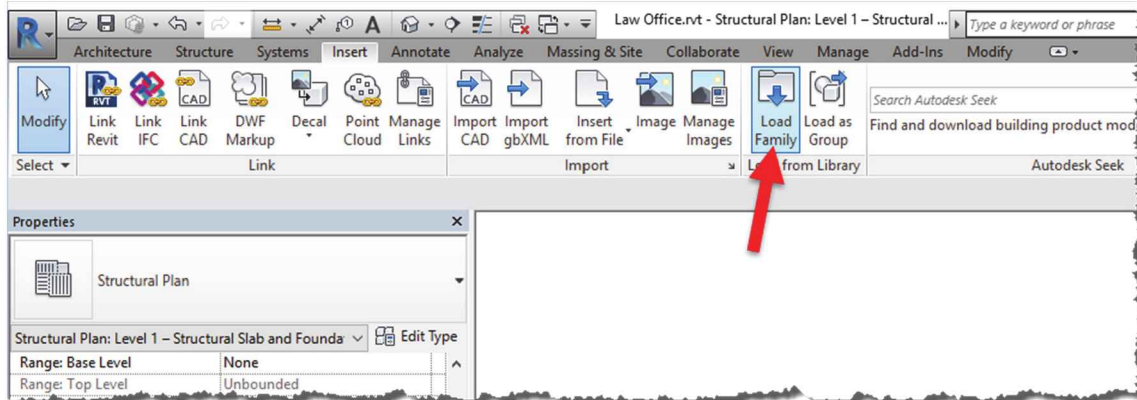

FIGURE 8-2.12 Loading content
31. Click **Insert** → **Load Family** from the *Ribbon* (Figure 8-2.12).